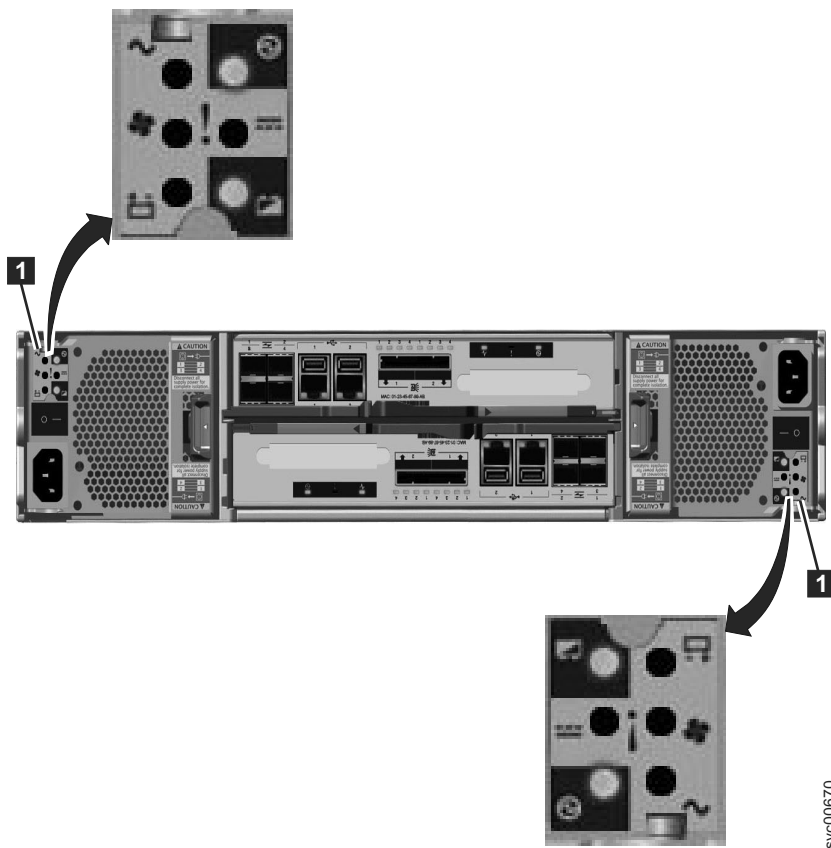

Figure 47. LEDs on the power supply units of the control enclosure
1. Use the state of the ac power failure, power supply OK, fan failure, and dc power failure LEDs on each power supply unit in the enclosure to determine if there is power to the system, or if there are power problems. Figure 47 shows the LEDs on the power supply unit for the 2076-112 or 2076-124. The LEDs on the power supply units for the 2076-312 and 2076-324 are similar, but they are not shown here.